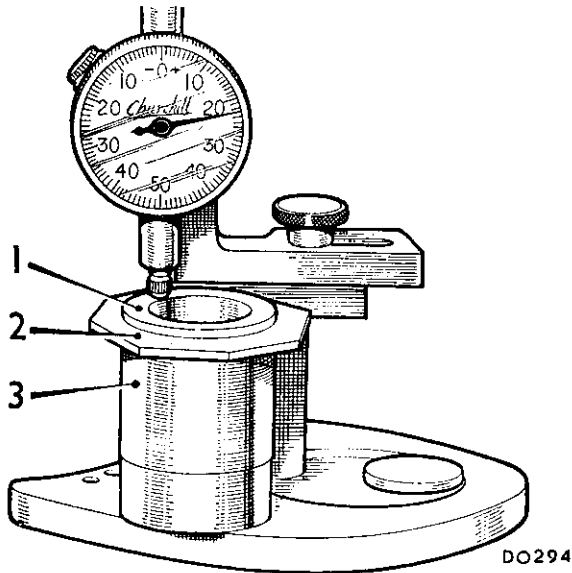

Fig. Aa.18
- (35) Remove the converter housing and withdraw the adaptor assembly 18G 1089 A, wax washer, and 18G 1089/1. Substitute this complete assembly for the input gear on the surface plate (see Fig. Aa.18).
- (36) Use the dial test indicator gauge, Service tool 18G 191, and measure the thickness of this assembly (see Fig. Aa.18). The mean reading obtained indicates the total thickness of shims required to eliminate end-float. To this figure add shims to the value of .001 to .003 in. (.025 to .076 mm.) to give the required input bearing preload.